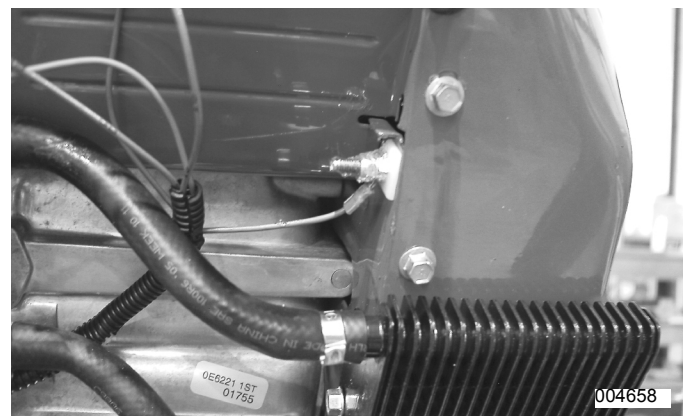

Figure 4-39. Wire 18
1. See Figure 4-39. Disconnect wire 18 from the stud located above the oil cooler.